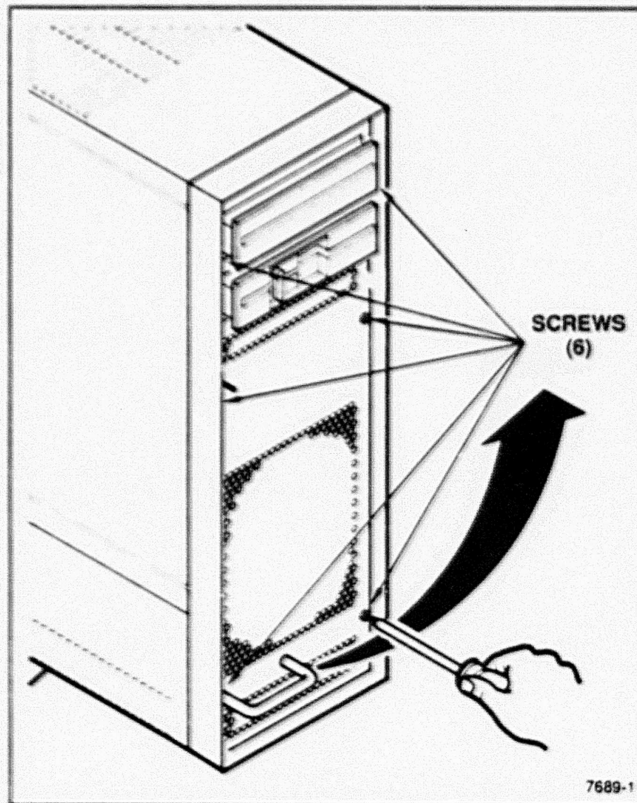

Figure 3. Removing the Front EMI Shield.
2. Remove the front EMI shield from the module by removing the six screws shown in Figure 3. Then carefully pull out on the handle while guiding the shield around the flexible disk and streamer tape drives.